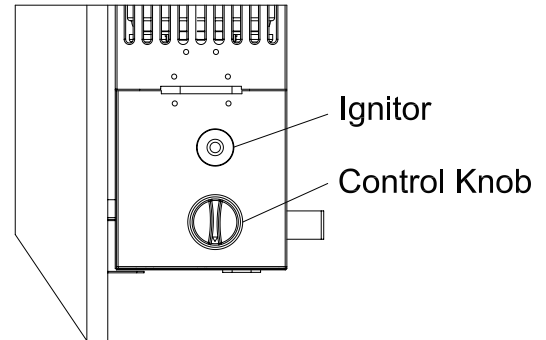

Figure 11- Control Knob in OFF Position
3. Push in gas control knob slightly and turn clockwise  to the OFF position.(see Figure 11)
4. Wait five (5) minutes to clear out any air gas. Then smell for gas, including near the floor. If you smell gas, STOP! Follow "B" in the safety information on the warning plate. If you do not smell gas, go to the next step.
5. Push in gas control knob slightly and turn counterclockwise  to "PILOT/IGN" position. Press in control knob for five (5) seconds (see Figure 11).
**Note:** The first time that the heater is operate after connecting the gas supply,the control knob should be depressed for about thirty(30) seconds.This will allow air to bleed from the system.
7. Keep control knob depressed for ten (10) seconds after lighting pilot. If pilot goes out repeat steps 5,6 and 7.